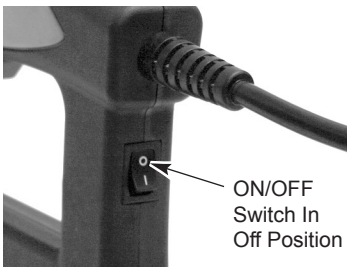

Figure 1
1. Toggle power switch to the OFF (0) position (see Figure 1) and unplug tool.